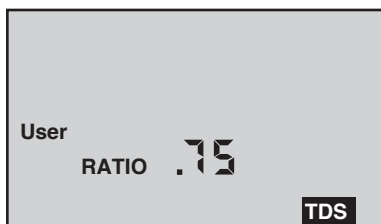

Figure 4
- b. Press $\left(\frac{\text{CAL}}{\text{MCLR}}\right)$ twice (to skip over tempco adjustment) and "RATIO" will appear (see Figure 4).